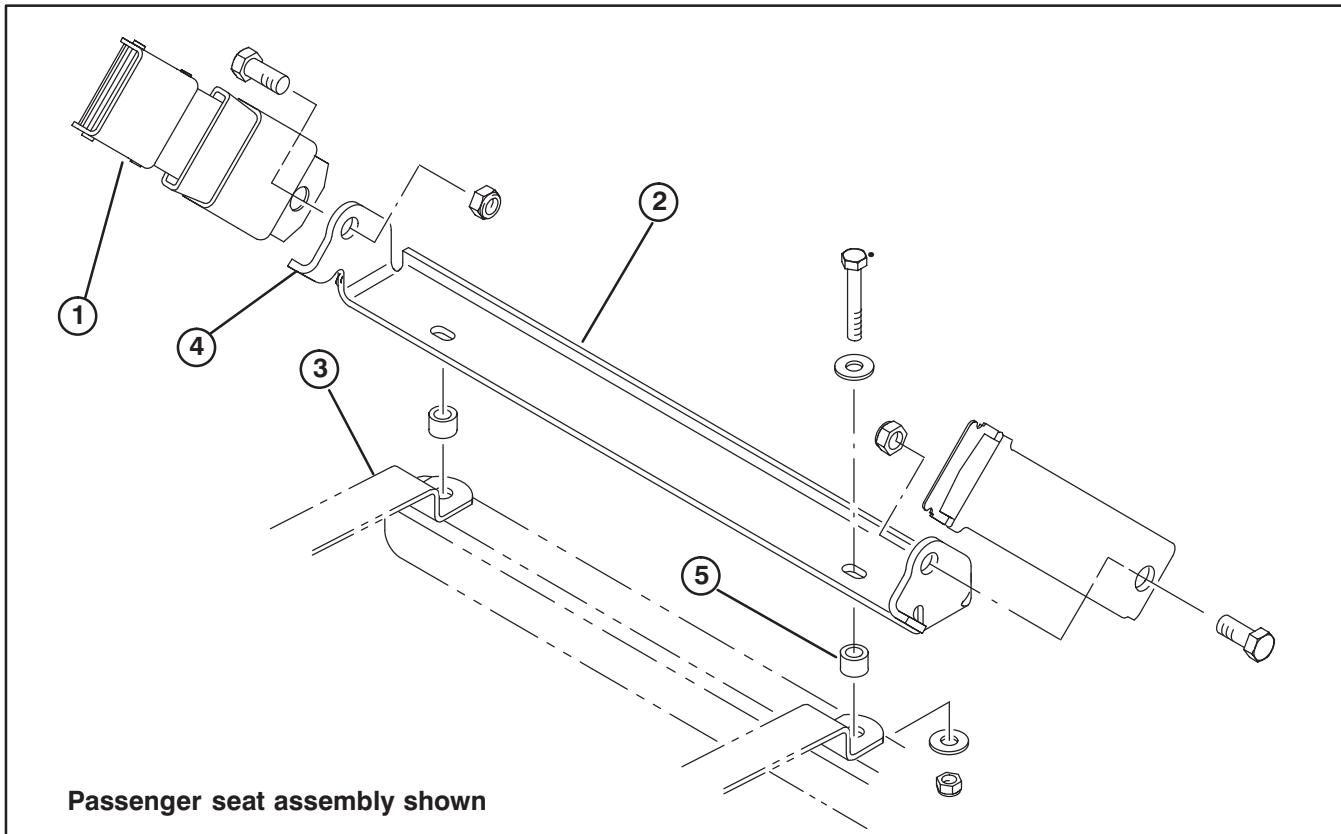

Figure 1
2. Secure each end of seat belt assembly to seat belt bracket as shown in figure 1, with a 7/16-20 x 1" lg. capscrew and locknut. Bent tabs on bracket to face forward and seat belt latch to be mounted on end of bracket positioned toward outside of machine. Tighten nuts securely.
3. Mount seat belt bracket to seat brackets and frame with (2) 5/16-18 x 2" lg. capscrews, washers and spacers. Spacers to be positioned between seat belt bracket and seat brackets.
4. Secure assembly to underside of frame with (2) washers and locknuts. Tighten nuts securely.